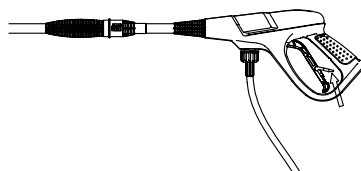

Figure 14
2. Lock the trigger **16** for the spray gun **15** by flipping the yellow safety lock **17** up until it locks in place (see **fig. 14**).